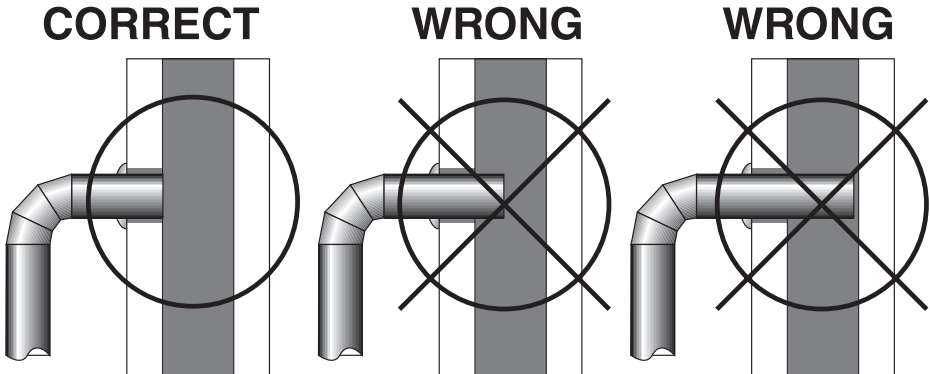

Figure 8 – Stovepipe/Flue Connections
- 1. The crimped end of the stovepipe fits inside the stove flue collar. Secure with three (3) equally spaced sheet metal screws. The first section of connector pipe must be single walled to properly attach to the stove collar. Install additional pipe and elbow with the crimped end towards the stove. This will allow any condensation in the flue to run back into the firebox.
- 4. The pipe cannot extend into the chimney flue (figure 8).
- 5. Secure all pipe/elbow sections with three (3) equally spaced sheet metal screws at each joint to make the piping rigid. **DO NOT CONNECT THIS STOVE TO ANY AIR DISTRIBUTION DUCT OR SYSTEM.**
- 6. It is recommended that no more than two (2) 90° bends be used in the stovepipe installation. The use of more than two 90° bends may decrease the amount of draw and possibly cause smoke spillage. Where possible, use only corrugated (non adjustable) elbows. These provide a better seal.
- 7. The pipe must not pass through an attic or roof space, trusses, closet, or any concealed space, floor, ceiling, wall, or combustible construction. (See Chimney Connector Systems & Clearances, page 17.) A manufactured chimney system listed to UL 103 HT (US)/ULC-S629 (CAN) must be used from the first penetration of ceiling or wall to the chimney cap.